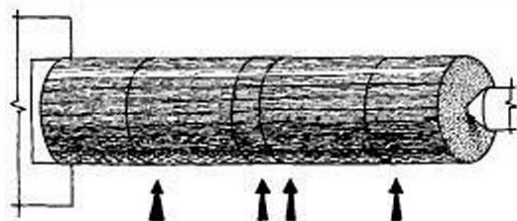

FIGURE 10-7
- 3** Use the dividers to mark the cylinder with all the step-offs. Allow a small amount at each end for chuck waste, 1" for each of the spacers, and about $\frac{1}{4}$ " at center for part-off waste (Fig 10-7).